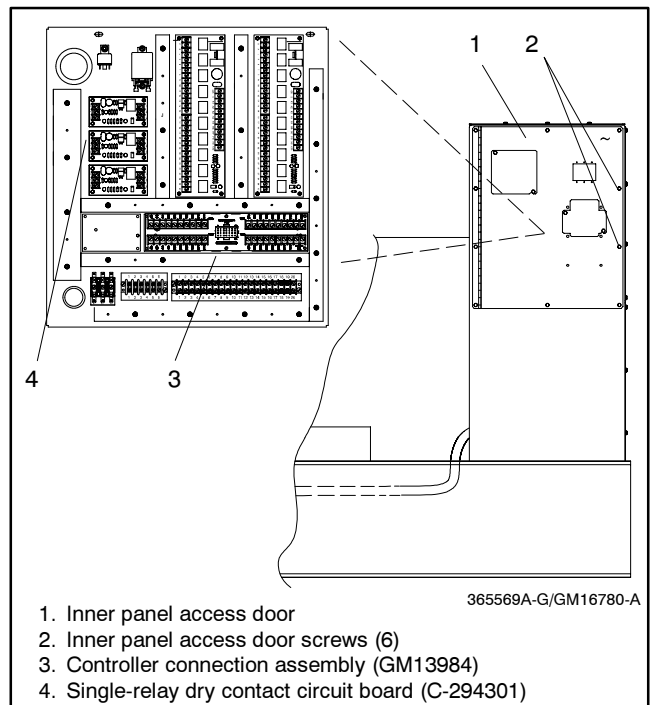

Figure 4 Terminal Block Bracket Mounting in Junction Box (450-2000 kW)
- 2.3.3 Attach the controller connection assembly (GM13984) to the junction box bracket studs using six spacers (X-712-9) and nuts (X-70-12). Place the spacers between the controller connection assembly and the mounting bracket. See Figure 4 for the mounting location.
- 3.3.1 Mount the single-relay dry contact circuit board (C-294301) to the junction box bracket studs using four spacers (X-712-9) and nuts (X-70-12). Place the spacers between the single-relay dry contact circuit board and the mounting bracket. See Figure 4 for the mounting location.